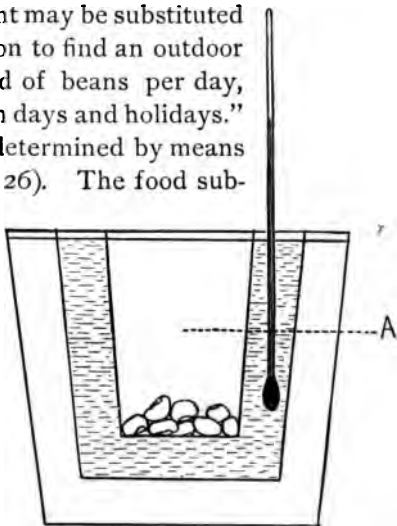

FIG. 26. — The bomb calorimeter from which the fuel value of food can be estimated.
The fuel value of a food is determined by means of the *bomb calorimeter* (Fig. 26). The food sub-
62. The Fats. The best-known fats are butter, lard, olive oil, and the fats of meats, cheese, and chocolate. When we test fats for fuel values by means of a calorimeter (Fig. 26), we find that they yield twice as much heat as the carbohydrates, but that they burn out more quickly. Dwellers in cold climates must constantly eat large quantities of fatty foods if they are to keep their bodies warm and survive the extreme cold. Cod liver oil is an excellent food medicine, and if taken in winter serves to warm the body and to protect it against the rigors of cold weather. The average person avoids fatty foods in summer, knowing from experience that rich foods make him warm and uncomfortable. The harder we work and the colder the weather, the more food of that kind do we require; it is said that a lumberman doing heavy out-of-door work in cold climates needs three times as much food as a city clerk.